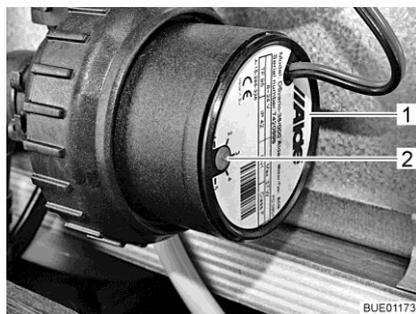

Fig. 212 Speed reduction
The rotational speed of the circulating pump can be set with the control knob (Fig. 212,2). At a lower rotary speed, the operating sounds of the pump are quieter.
The control knob is located on the circulating pump (Fig. 212,1).
- Turn the control knob (Fig. 212,2) in an anticlockwise direction. The output is reduced.